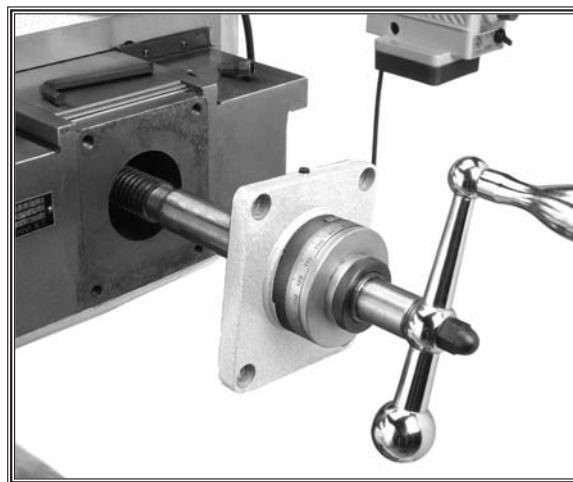

Figure 56. Crossfeed handle removal.
2. Turn the crossfeed handle to withdraw the feed screw as shown in **Figure 56**. Withdraw the feed screw until the adjustment screws are accessible.